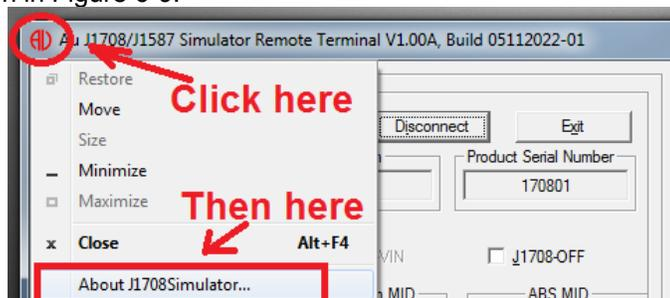

Figure 6-9
- 3. Click the Au Logo on the top left corner of Au J1708 Simulator Remote Terminal, then click "About J1708 Simulator ..." as shown in Figure 6-9.